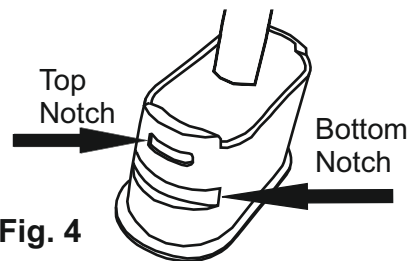

Fig. 4
- 3) The sensor module has two notches as shown in Fig. 4